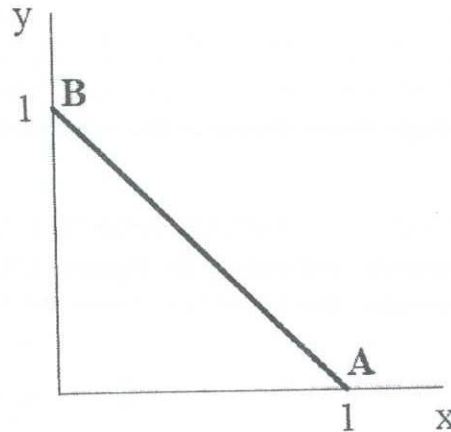

Figure Q3a
- (ii) Determine the rate of flow across the straight path AB shown in Figure Q3a.